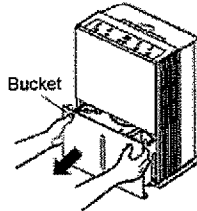

Fig. 1
1. Remove the bucket from the dehumidifier (Fig. 1)
1. Tilt the dehumidifier no more than 45° and forcibly insert the casters. Make sure the ring around the caster is flush against the bottom of the dehumidifier (Fig. 1)
1. Pull out the bucket, grasping the side handles. (Fig. 1)
(Fig. 1)